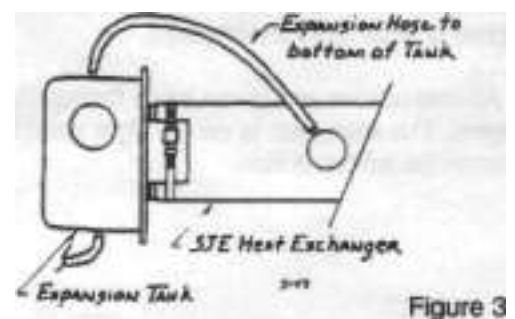

Figure 3
21. Secure the plastic expansion tank to aluminum bracket using the 1/4" bolts, washers and nuts. Position the plastic expansion tank assembly on the left end of heat exchanger. Use the #00 hose clamp to secure tank to heat exchanger (Figure 3). In some applications this assembly can be rotated back to clear engine hatch. Cut a piece of 5/16" hose to connect the spud at the heat exchanger fill neck to the spud at the bottom of the expansion tank. Use the (2) 5/16" spring clamps to secure the hose (Figure 3). The remaining hose is used as an overflow, attach one end to the spud at the top of the tank the other is routed towards the bilge.